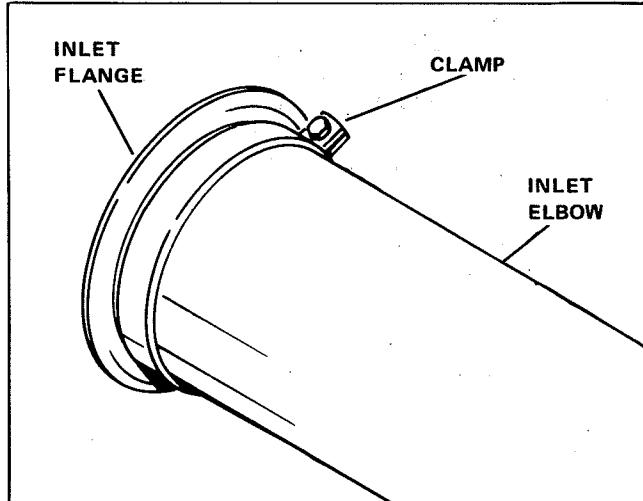

Figure 18. Assembling Inlet Elbow
7. Insert the inlet flange into the long end of the inlet elbow, and hold the flange tight in the inlet elbow with a clamp and screw. (See figure 18.).